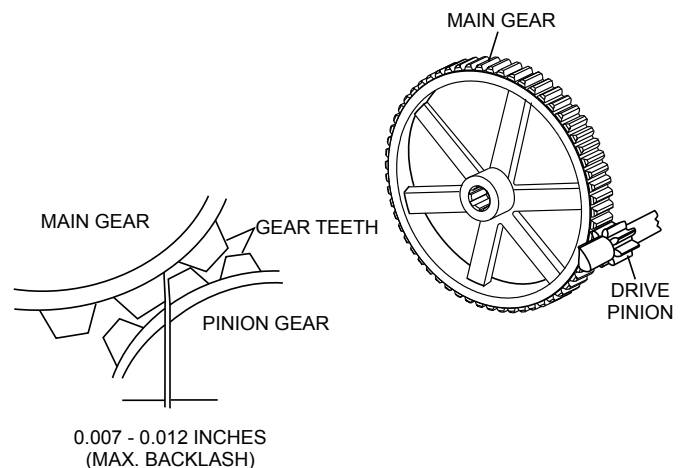

Figure 28. Drive Pinion and Main Gear (Backlash)
3. Using your hand, slightly move (rock) the drive pulley back and forth to determine the amount of backlash. Insert feeler gauge between gears to determine backlash distance. Backlash should range between 0.007- 0.012 inches (Figure 28).